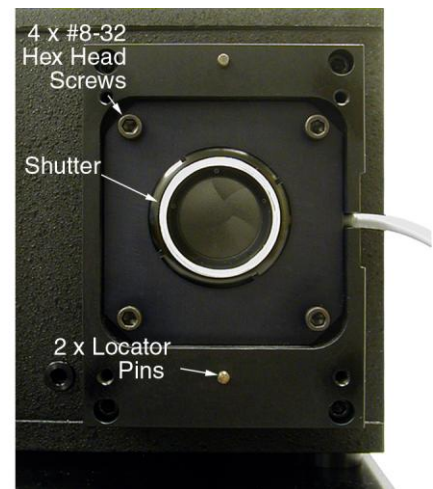

Figure 2-8. Shutter Assembly
2. Using small flat blade screwdriver, loosen the two screws on the side for the shutter adapter (see Figure 2-8) until the collar slides on the shutter cable.
4. Using a 9/64 hex wrench, remove the four shutter assembly mounting screws (Figure 2-8)